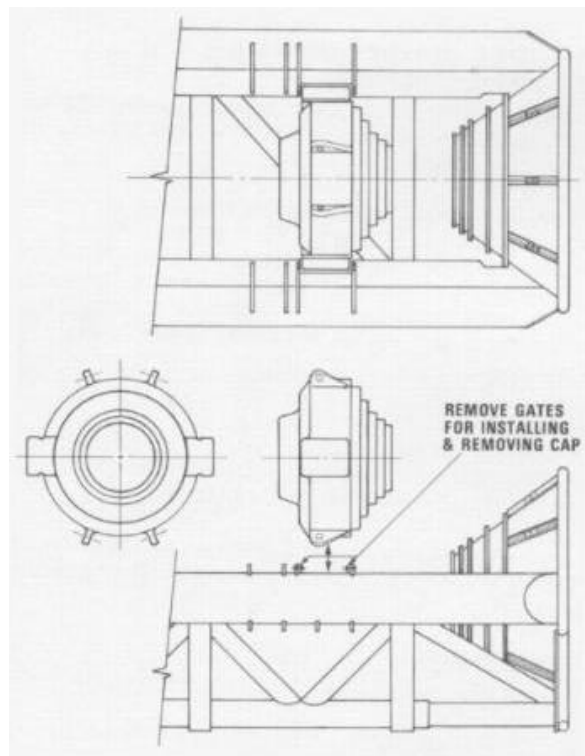

Figure 4.1.2 Pipe Cap Installation and Removal
5. Insert the Pipe Cap through the gates. The operation of the Pipe Cap gates is shown in Figure 4.1.2 Pipe Cap Installation and Removal. Pipe Caps can be changed out during the life of the assembly by simply removing and inserting them through the gates. The Pipe Cap should be lowered vertically using the lifting lug in the center of the Pipe Cap body. Replace the pipe cap gates.